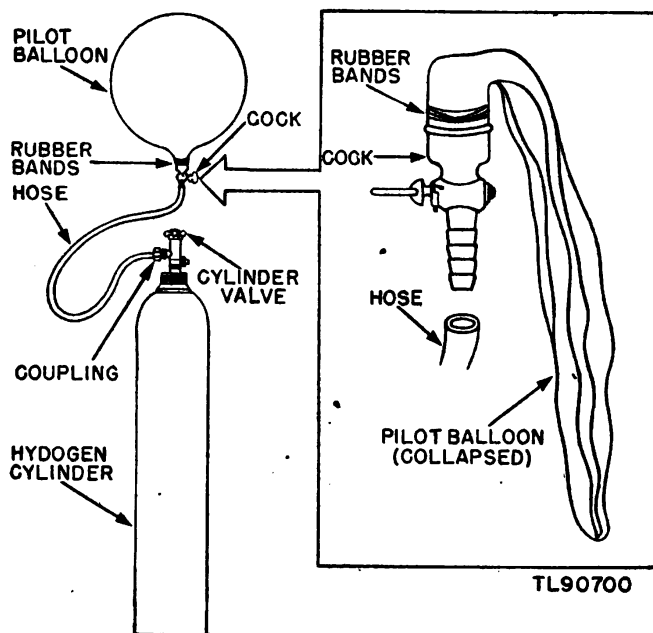

FIGURE 6. *Inflating pilot balloon.*
(1) *Inflating from cylinder filled with hydrogen* (fig. 6). (a) Open the valve on the hydrogen container, and allow a slow flow of